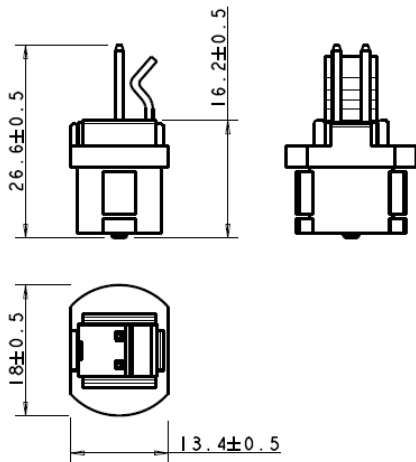

Fig. 1
- Molex connector code 09-65-2028 (model ST11, see Fig.1);